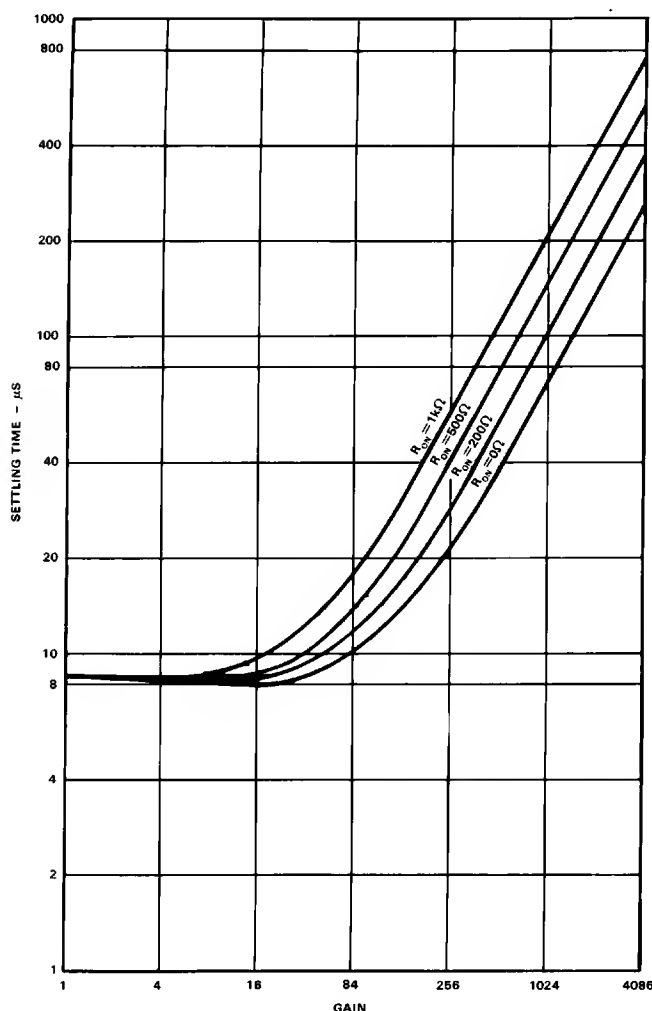

Figure 40. Time to 0.01% of a 20 V Step Input for SPGA with AD625
*The frequency response and settling will be affected by the ON resistance and internal capacitance of the multiplexer. Figure 40 shows the settling time vs. ON resistance at different gain settings for an AD625 based SPGA.